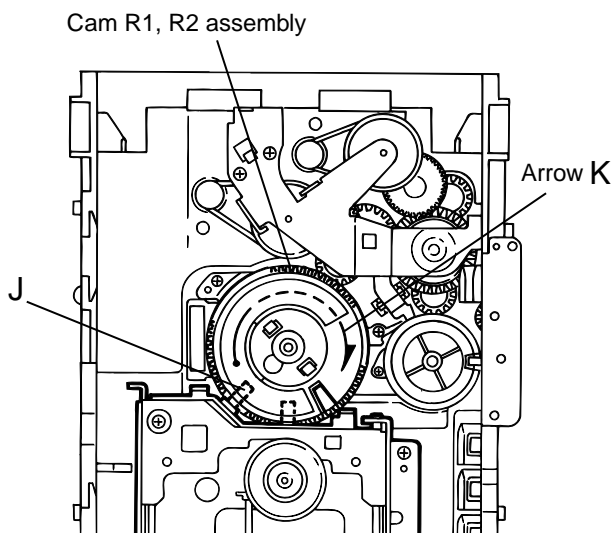

Fig.11
**Removing the CD traverse mechanism (See Fig.11 and 12)**
1. For dismantling only the CD traverse mechanism without removing the CD loading mechanism assembly, align the shaft "J" of the CD loading mechanism assembly to the position shown Fig.11 while turning the cam R1 and R2 assembly in the arrow direction "K" .